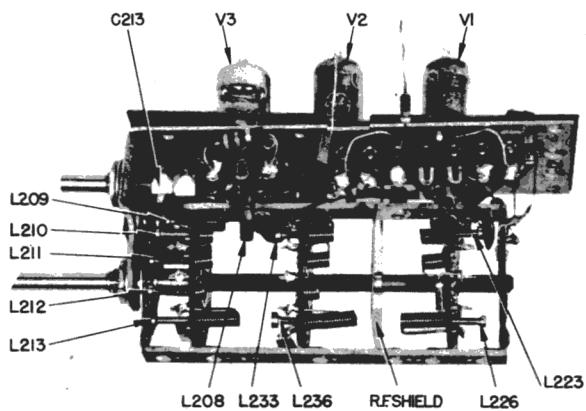

Fig. 26. Head-End (right side view)
2. The adjustment locations are shown in Figure 26 and 27. Alignment is made by viewing the placement of the video carrier on the response curve viewed at the output of the 1st video amplifier. As the oscillator tuning control is changed, the 26.3 mc